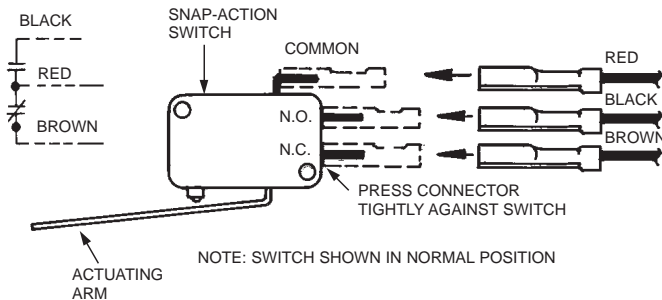

FIGURE 43
3. Press each wire assembly onto the 3-terminals located on the switch(s). Be sure that the connector is pressed tight against the switch. See Figure 43.